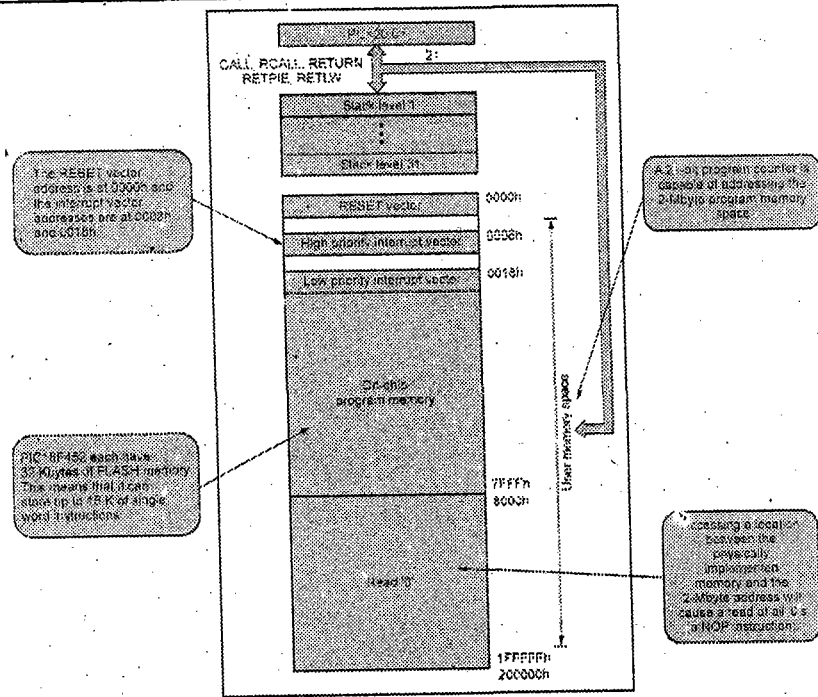

Fig. Q.7.1 : Program memory organization of PIC
- PIC18 devices have two interrupt vectors. The Reset vector address is at 0000H and the interrupt vector addresses are at 0008H and 0018H as shown in Fig. Q.7.1.
- The Program Counter (PC) specifies the address of the instruction to fetch for execution.